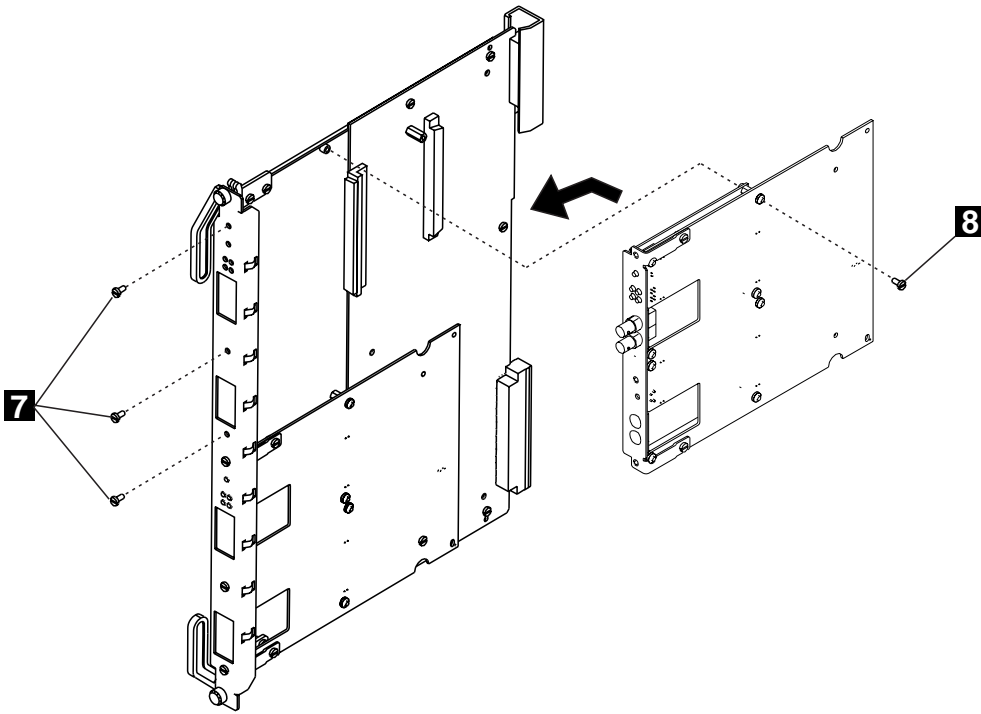

Figure 17. Reattaching the Motherboard
- 8 Reattach the motherboard to the module using the four screws ( 7 and 8 in Figure 17) that originally held the motherboard.